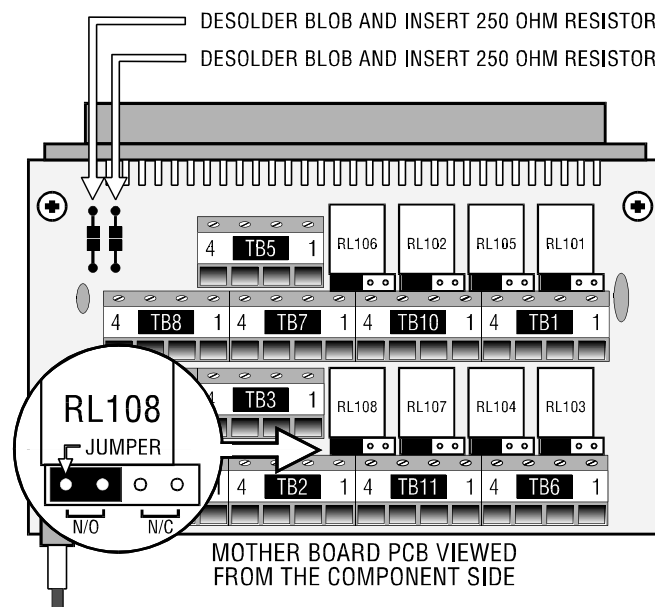

Figure 4: Mods for 0 to 20mA Output
**4.2 Optional Output** 0 to 20 milliamps. To achieve this, de-solder the appropriate blob and insert a 250Ω resistor on the mother card as per figure 4 below (refer to the on-disk reference manual for more detail).